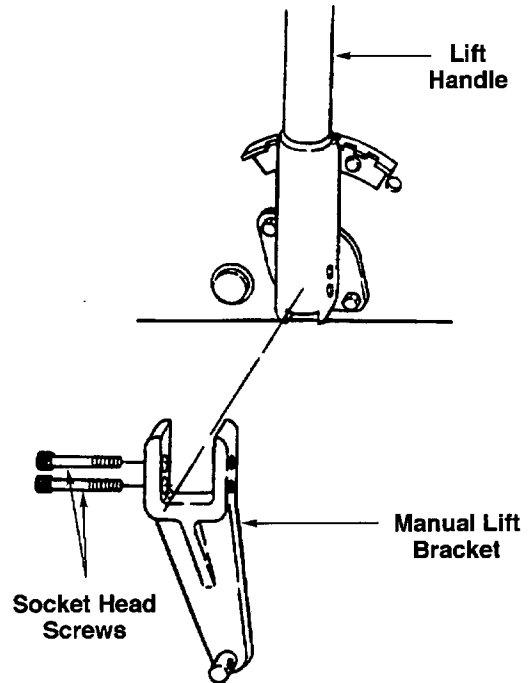

Figure 12
- b. Holding the lift handle in place, slide the manual lift bracket assembly (3-12) up onto the lift handle in the position shown in Figure 12.
- c. Secure the lift bracket and lift handle with the two socket head cap screws (3-13) as shown in Figure 12.